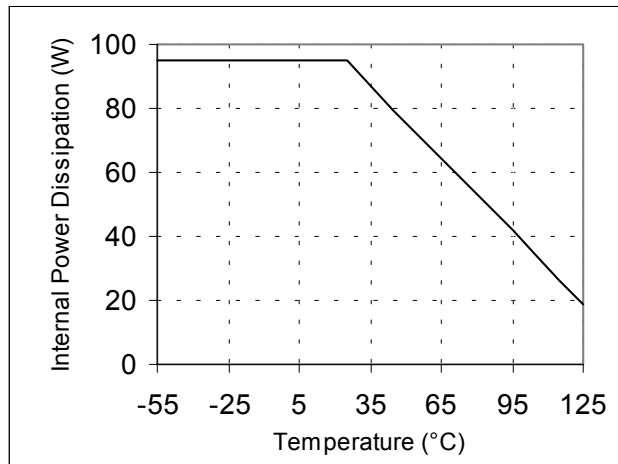

Figure 3. Maximum Average Power Dissipation vs. Case Temperature (TO-3 package)
4. Case Temperature $T_C = 25^\circ\text{C}$ (see Figure 3).